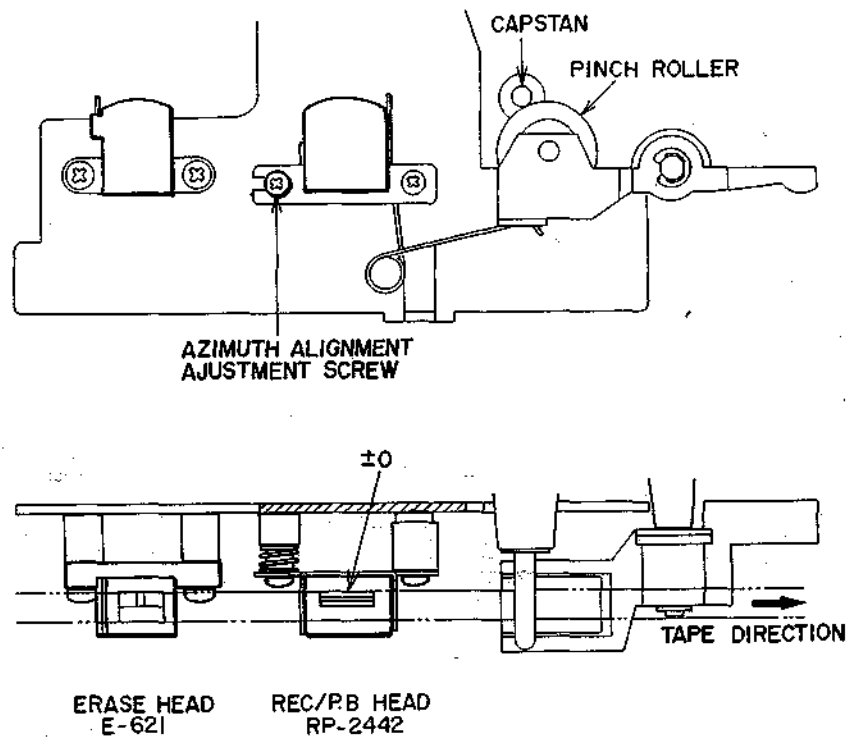

Fig. 13 Head Adjustment
AZIMUTH ALIGNMENT (Refer to Fig. 13)
- Playback a 10 kHz pre-recorded cassette azimuth alignment test tape and adjust screw shown in Fig. 13 to obtain maximum output on both channels.